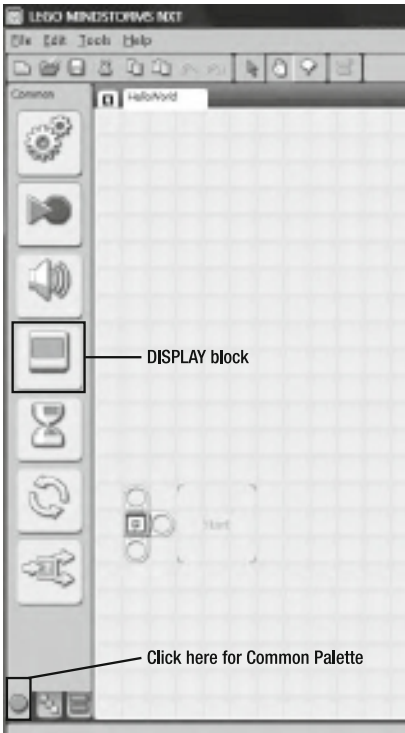

Figure 3-2. The HelloWorld program is open and ready for the DISPLAY block.
Figure 3-2 shows the new program opened (see the tab called HelloWorld in the upper left corner?) and ready for you to start dropping NXT-G blocks. The word “Start” appears on the work space beam, telling you where your first programming block will be placed.
■ **Note** If you don’t see the Common Palette along the left side of the screen, click on the green dot indicated in Figure 3-2.